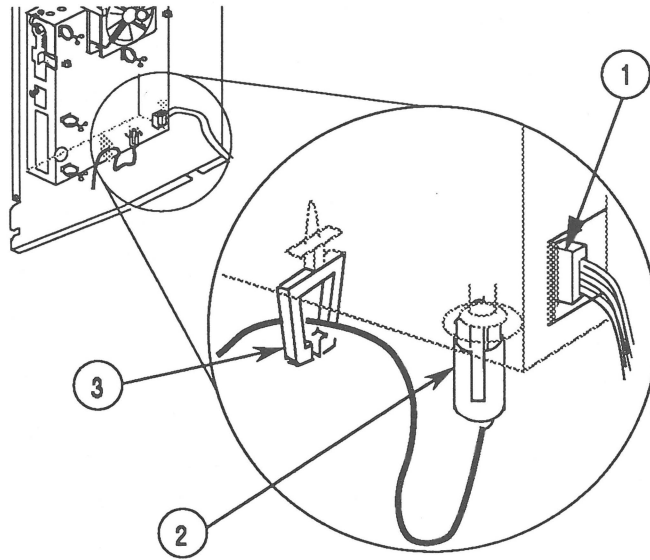

FIGURE 22
6. Reconnect the small LED connector (Figure 22, #1) to the video board.
7. Reconnect the video cable (Figure 22, #2) to the video board, and replace the cable in the cable clamp (Figure 22, #3).